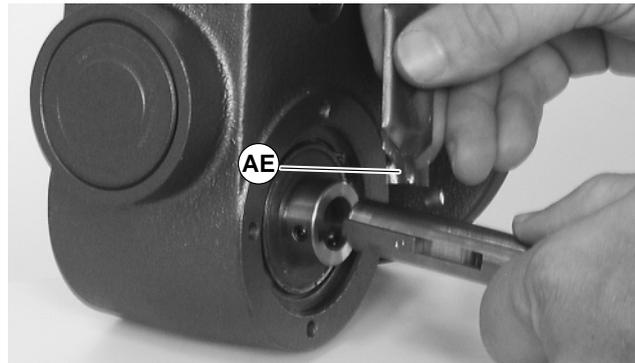

Figure 28
- Apply grease (AE of Figure 28) to shaft.